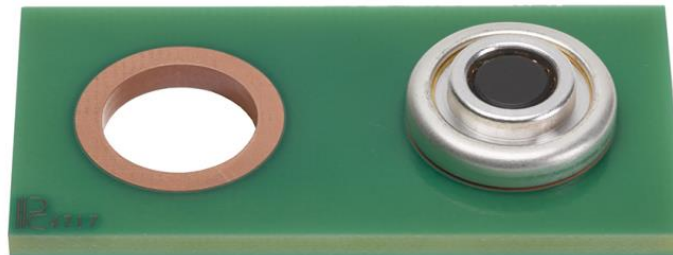

Figure 1
5. Lightly hand or pick and place the CST socket into center of above verified hole making sure to not press the solder out of the way (see Figure 1 for reference)